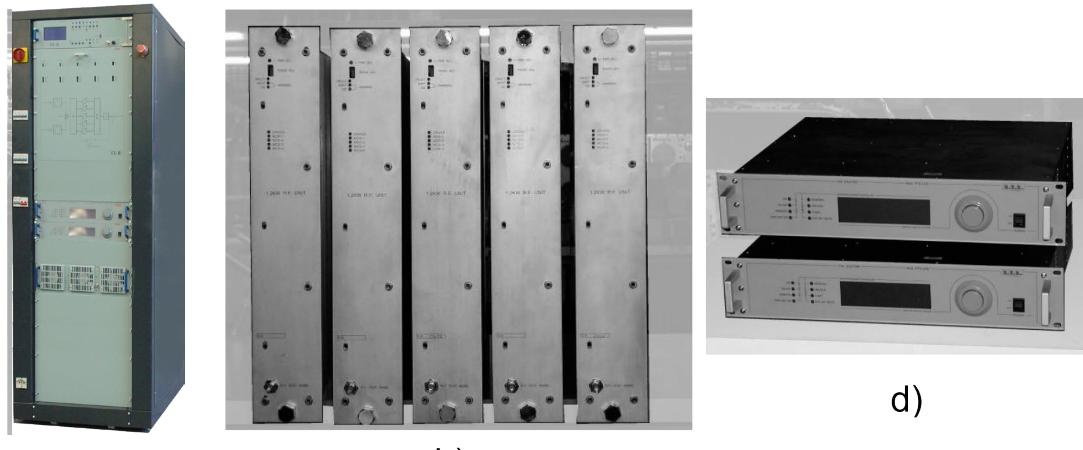

Figure 5.1
- The rack (various components are assembled, such as the coupler, the splitter, the control unit, the main blower) [Figure 5-1 a)]
- The 5 RF modules [Figure 5-1 b)]
- The excitors [Figure 5-1 d)]. (As a rule the amplifier is supplied as a complete transmitter. This example shows two PTXLCD excitors produced by R.V.R. Elettronica. Usually the excitors are pre-assembled inside the rack).